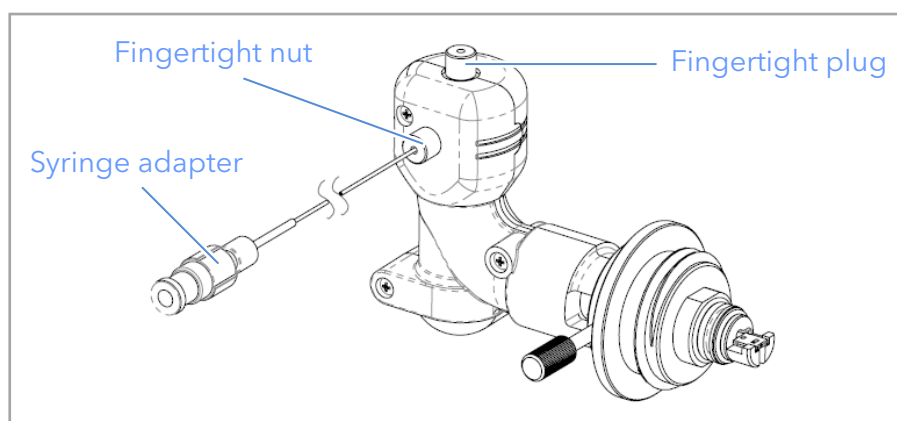

Fig. 17 Calibration kit set up
5. Install the plug (A66917) into the waste line port of the SFI and complete all fluidic connections between the SFI and the syringe (see Fig. 17).